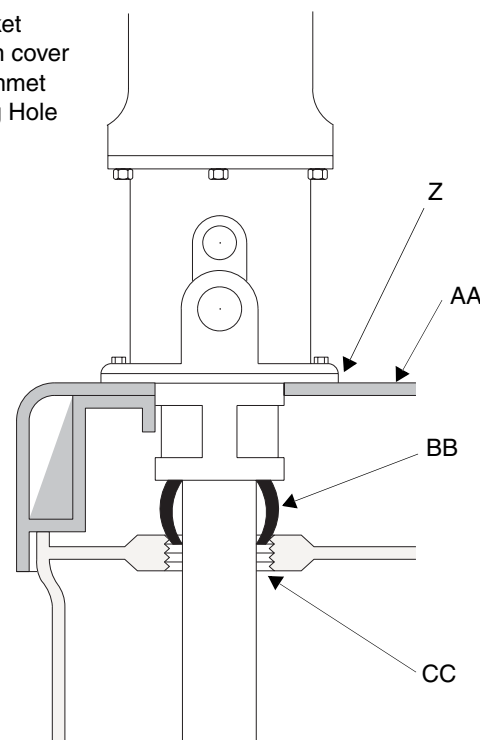

FIG. 9
1. Insert the pump extension tube through the gasket (Z) and drum cover (AA). Fasten the Fire-Ball 300 from the top and the Fire-Ball 425 from the bottom. See FIG. 9.
2. Slide the rubber grommet (BB), tapered end down, onto the extension tube and push it up against the pump base. See FIG. 9.
3. Guide the pump extension tube through the drum bung hole (CC) and place the cover on the drum. See FIG. 9.